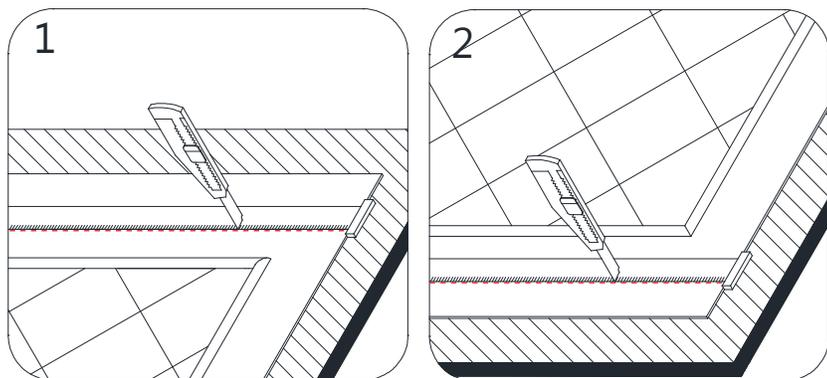

Fig 16a
16. Place the Side Panel (#02) onto a flat piece of plywood or particle board. Use a T-square and a sharp industrial knife to score along the cut lines (from the previous step) on the Side Panel (#02) and continue scoring until fully cut through the panel. **(Fig 16a and Fig 16b)**